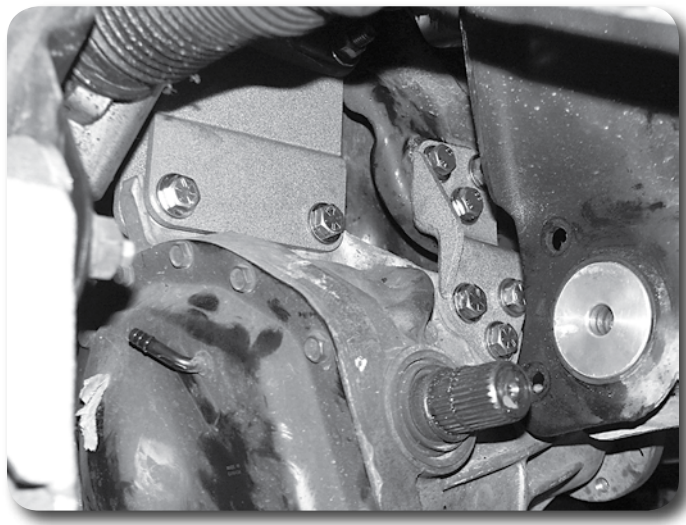
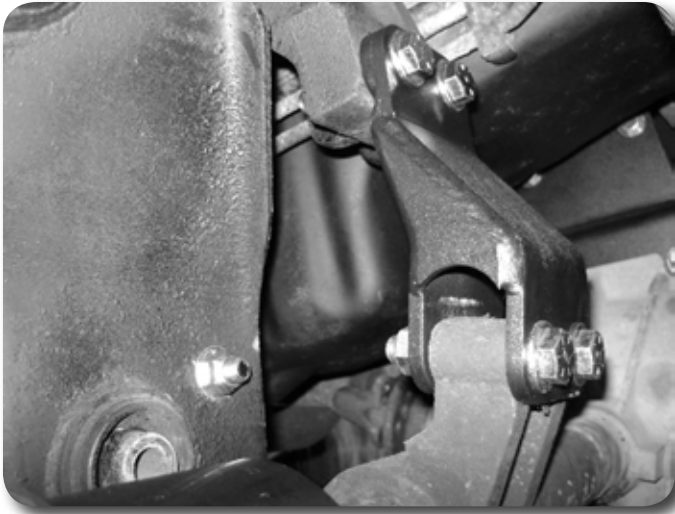

Figure 22A
Figure 22B
37. Attach the differential to the driver's side front and rear brackets **Figure 22A** with $\frac{1}{2}$ " x 2-1/2" bolts, nuts and washers. Attach the passenger's side **Figure 22B** to the differential with $\frac{1}{2}$ " x 2-3/4" bolts, nuts and $\frac{1}{2}$ " SAE washers (BP #617). Leave all differential hardware loose.